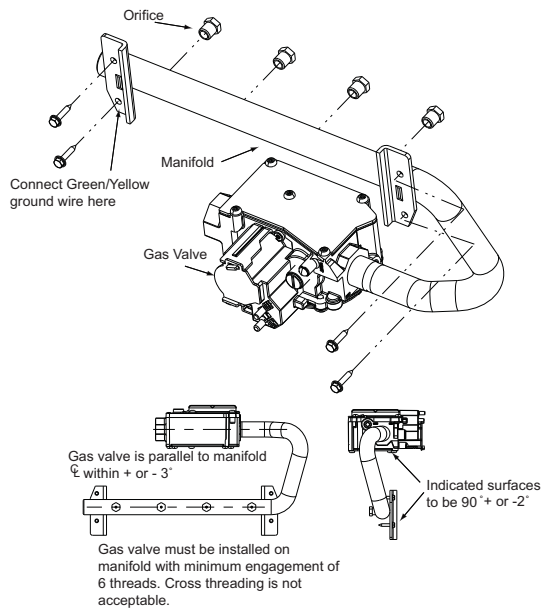

Figure 2 – Manifold Assembly
4. Note the location of the green/yellow wire ground wire for re-assembly later. See **Figure 2**.